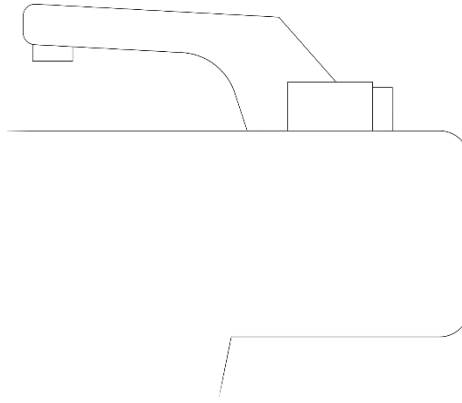

Figure 12.11: A zoomed-in view of the washbasin side view
11. Zoom in to the upper-right corner of the washbasin side view objects, as shown in *Figure 12.11*.